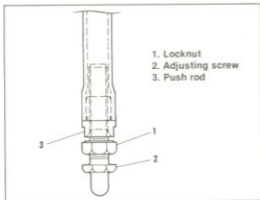

Figure 3-14. Push Rod Adjustment
- See Figure 3-14. Turn one front cylinder push rod adjusting screw (2) downward until the ball end of rod is seated in hydraulic lifter and has just no noticeable shake. Hold the push rod flats (3) with one wrench to keep rod from turning and with a second wrench turn the adjusting screw down slowly until hydraulic lifter is completely compressed. Then turn it up exactly 1-1/2 turns. Lock the adjustment by turning locknut (1) against push rod and tightening the locknut to 6-11 ft-lbs torque. Repeat for the other front cylinder push rod.